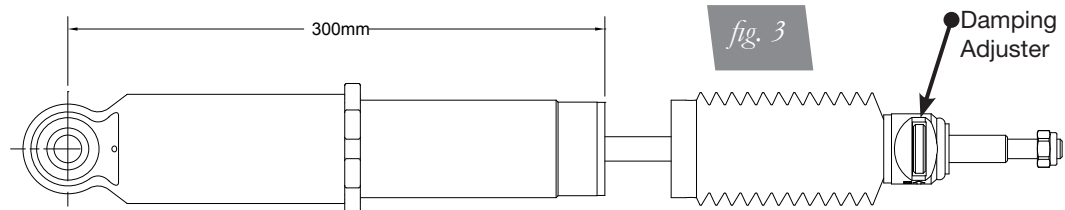

fig. 3
- a. Thread the out to 300mm to match the compressed height of Bilstein Sport shocks (Fig. 3).